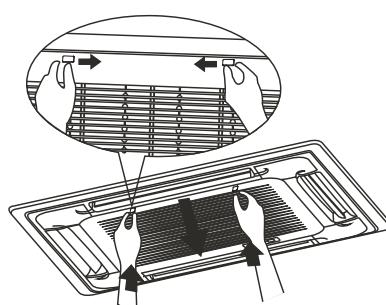
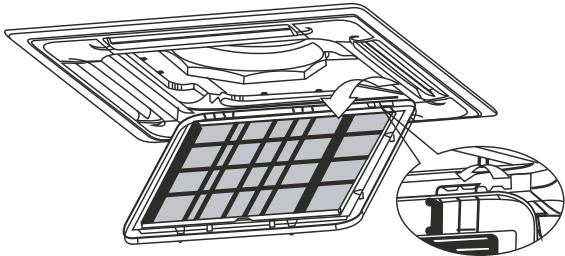

Figure 13.1
Figure 13.2
- ♦ Push the grille switches simultaneously, as indicated in Fig.13.1. Then pull down the air intake grille (together with the air filter, as shown in Fig.13.2). Pull the air intake grille down to 45°, and lift it up to remove the grille.